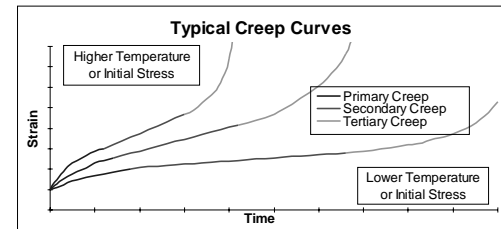

Figure 2. Creep curves.
**Creep** curves display similar tendencies, although more complex than stress relaxation curves. Creep curves can best be plotted as strain versus time. Creep is divided into three stages (see Figure 2). In the primary stage (represented by the blue portion of the curves), the initial rate of creep is rapid, although it steadily decreases to a constant rate that is found in the secondary stage (shown in red). In the tertiary stage (shown in green), the creep rate accelerates, and the strain rapidly increases until the material fractures. At every stage, however, the rate is dependent on the initial stress level and the temperature (**rate dependence**). High initial stress levels and high temperatures will accelerate the creep process. On the other hand, low temperatures and initial stress levels will tend to slow the process. For example, a plastic coat hanger holding a heavy coat in a hot attic will tend to creep more than one holding a tee shirt in a cool basement.